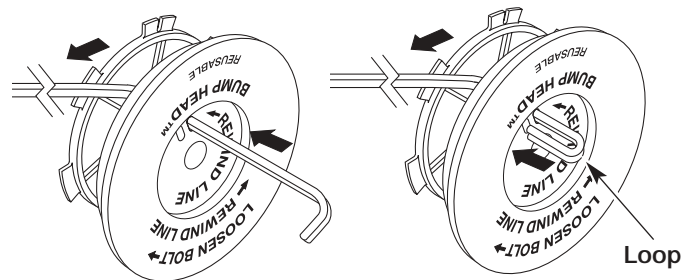

Fig. 33
- Take approximately 8 feet (2.5 m) of new trimming line. Insert one end of the line through one of the two holes in the inner reel (Fig. 33). Pull the line through the inner reel until only about 4 inches is left out.
- Insert the end of the line into the open hole in the inner reel and pull the line tight to make the loop as small as possible (Fig. 33).